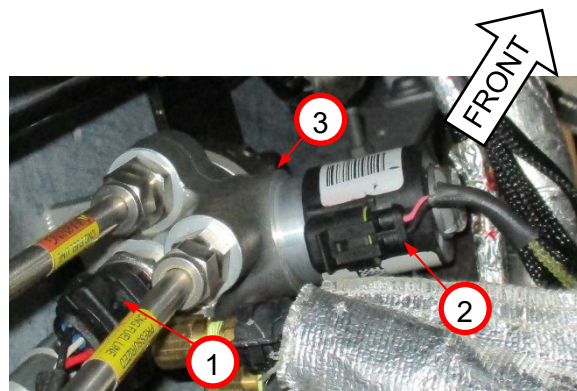

Figure 1:
6. Disconnect pressure transducer (1) and supply solenoid electrical connectors (2) from pressure regulator (3). *Figure 1*